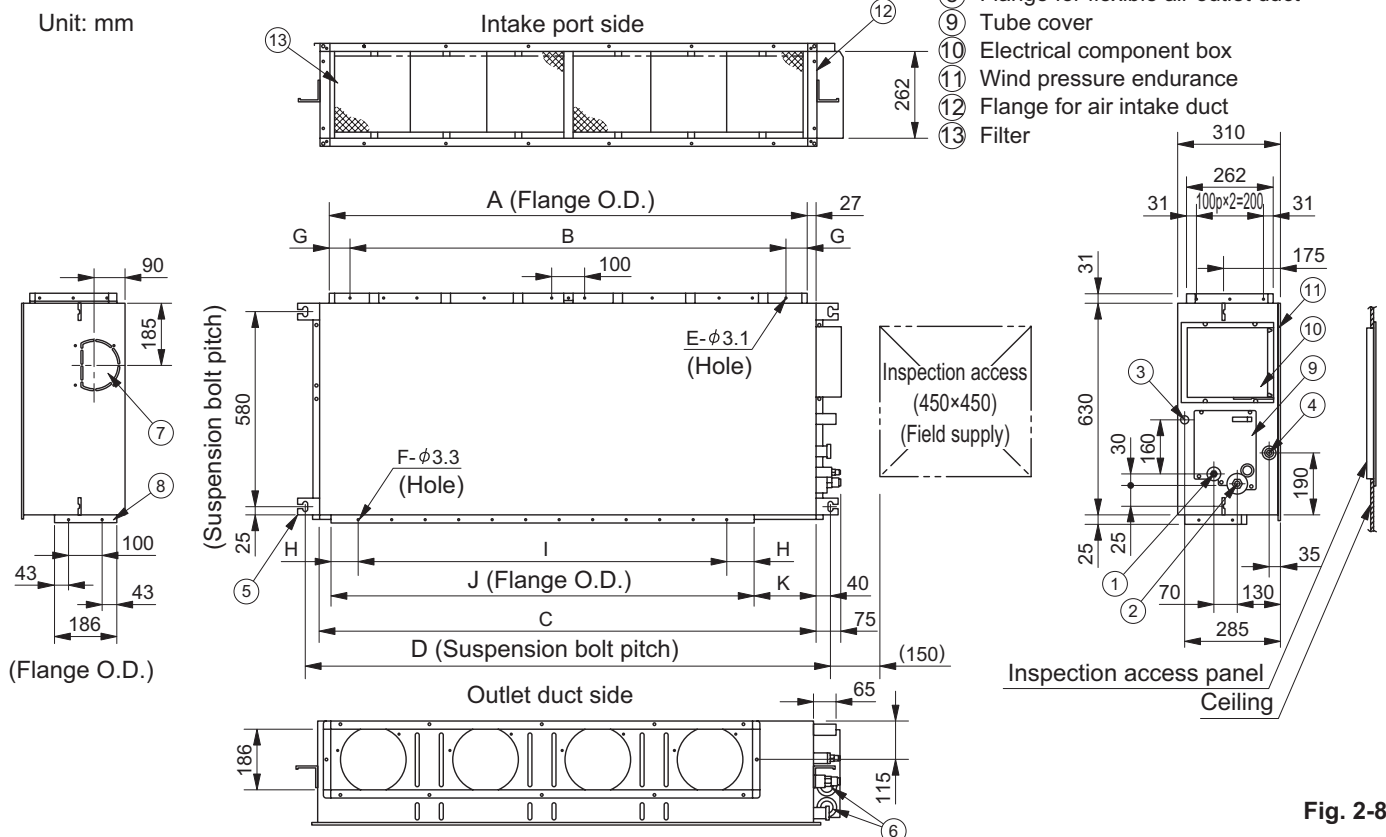

Fig. 2-88
- The detailed dimensions of the indoor unit is shown in Fig. 2-88 and Table 2-16.